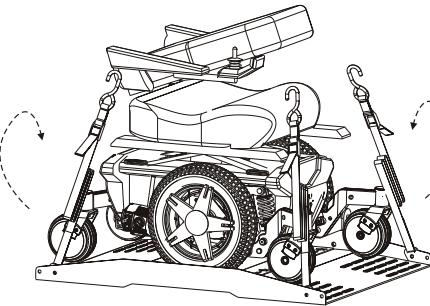

Figure 3-3
1. Each corner of the AL6000 platform has a restraint attached with a hook on the end. Place each hook in either the anchor plate slot, each U-bolt, or tie-down loops attached to the mobility device. *See Figure 3-3.*